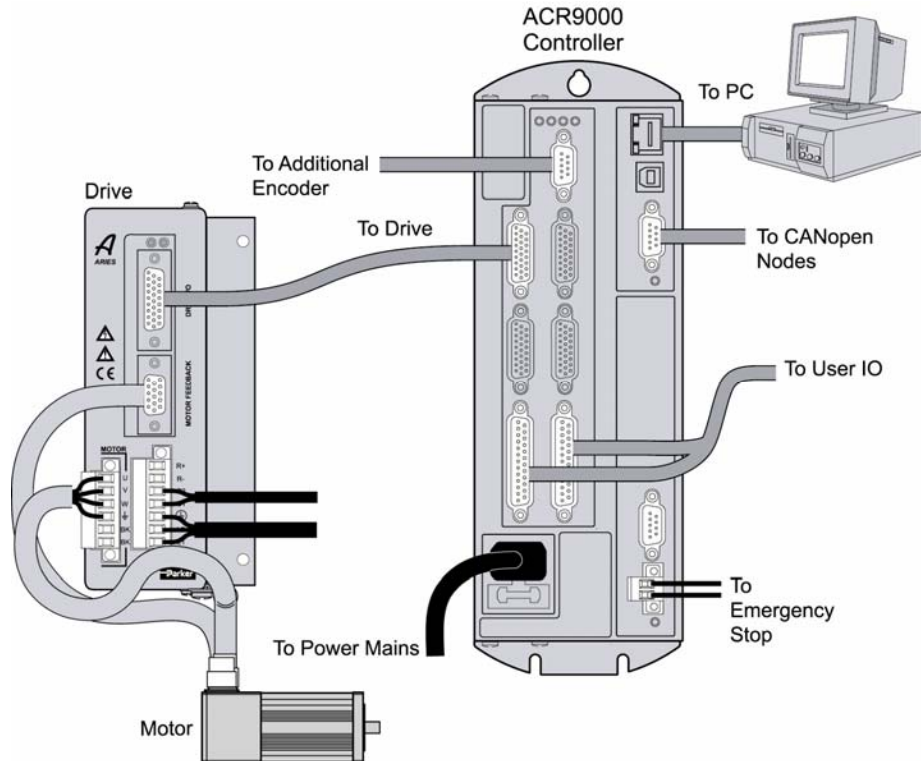

Figure 21 Overview of System Installation
Figure 21 illustrates the components necessary for installation of the ACR9000 Stand-Alone Controller. It shows the ACR9000 connected to an Aries drive and a personal computer (PC), and it is also applicable to the ACR9030 installation. The recommended installation process, mounting guidelines, and cable installation procedures follow.